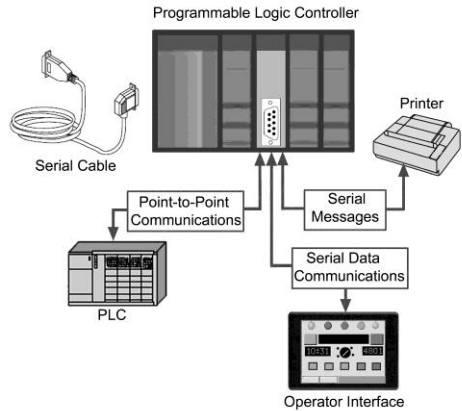

Figure 14-9 Communication links for question 42.
42. Figure 14-9 illustrates examples of point-to-point _____ communication links. 42._____